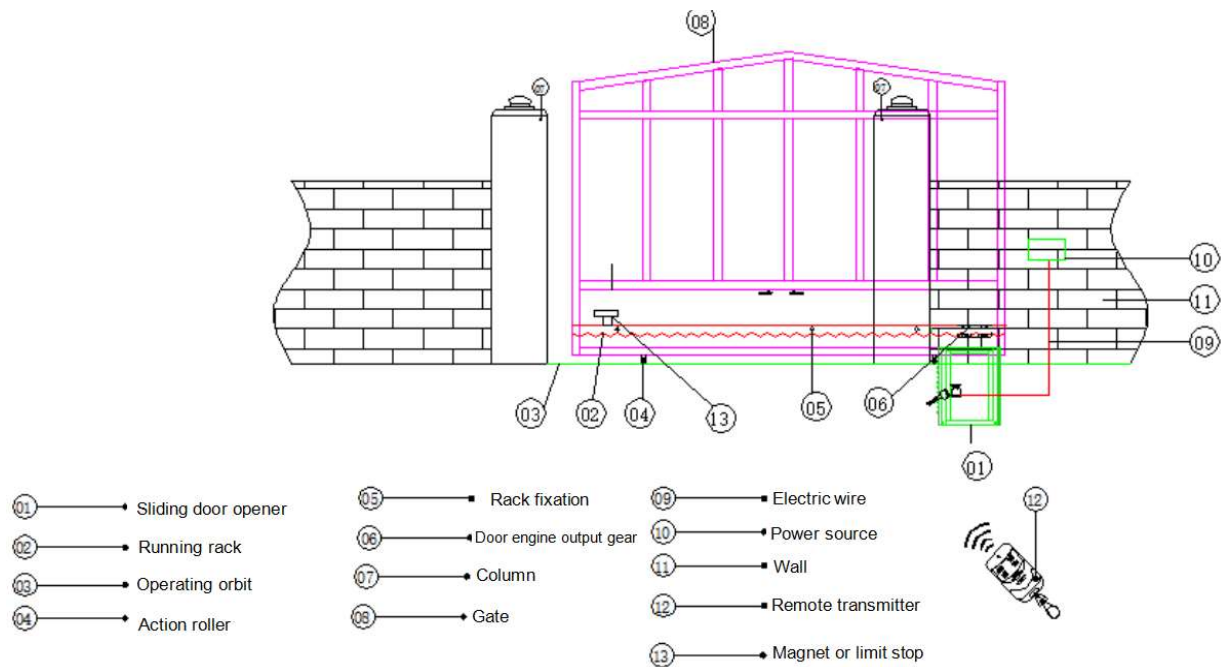

Figure 2
1. The door opening machine and sliding door installation can be referred to Figure 2, and can be controlled by remote control to ensure safety, we recommend the installation of a limiting device to prevent the door from falling off the track when moving. The rails must be mounted horizontally and straight.
Connect the ground wire to the corresponding terminal of J1 on the electric control board (see Figure 2). The power cord and control cables (buttons, receivers, infrared safety protection, etc.) must be separated. To avoid electrical interference, it is recommended to use shielded cables.